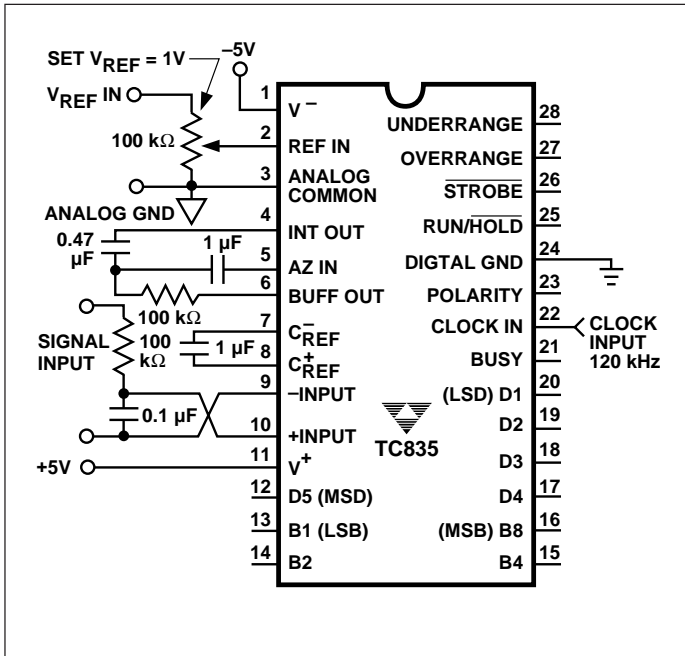

Figure 1. Test Circuit
- Test circuit shown in Figure 1.